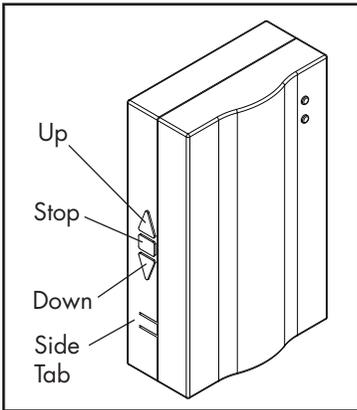

Figure 4.1 - Control Box
- Manually raise the Quick Lift by pressing the "Up" button (Figure 4.1).
- Open the control box by pressing the side tabs (Figure 4.1) and pulling the cover off. The control box is located on the upper left-hand portion of the Quick Lift mounting board.